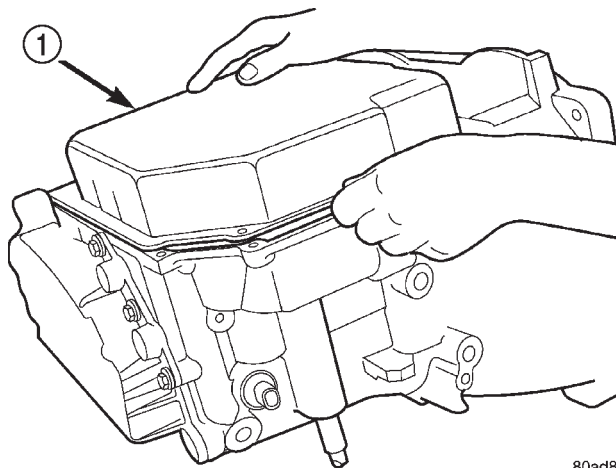

Fig. 96 Transaxle Oil Pan
(5) Remove transaxle oil pan (Fig. 96). When reinstalling oil pan be sure that pan flange is clean and oil free. Apply a 1/8 inch bead of Mopar Silicone Sealer onto oil pan flange before installing.